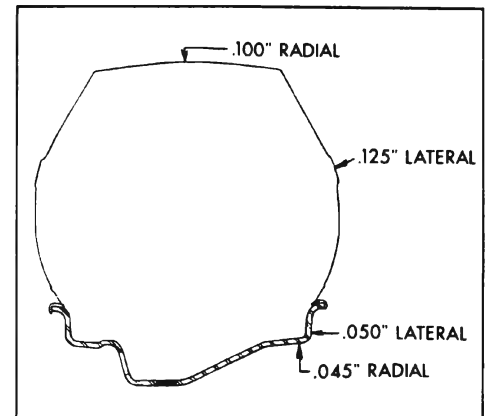

Figure 7-5—Runout Limit Specifications
Wobble or runout of a tire, either front or rear, due to bent wheel or to tire being improperly mounted will cause uneven wear. The runout of wheel and tire when rotated should not exceed dimensions shown in Figure 7-5.
2. Check runout of front and rear wheels and tires. Runout should not exceed specifications shown in Figure 7-5. See subparagraph b, below.
A dial indicator may be used to check runout on wheel and tire assemblies at points shown on Figure 7-5. Tire runout should be checked immediately after the car has been driven, as tires take a "set" after standing for a short period. NOTE: It should be stressed that the runout found is a mere indication and not proof of the source of trouble.
3. Mount the dial indicator on a firm base and check total indicator runout at the points indicated in Figure 7-5.